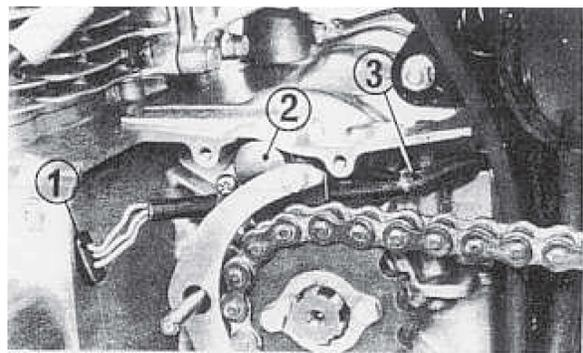

Fig. 4-109 (1) Grommet
3. Route the generator lead wire properly as shown in Fig. 4-109.